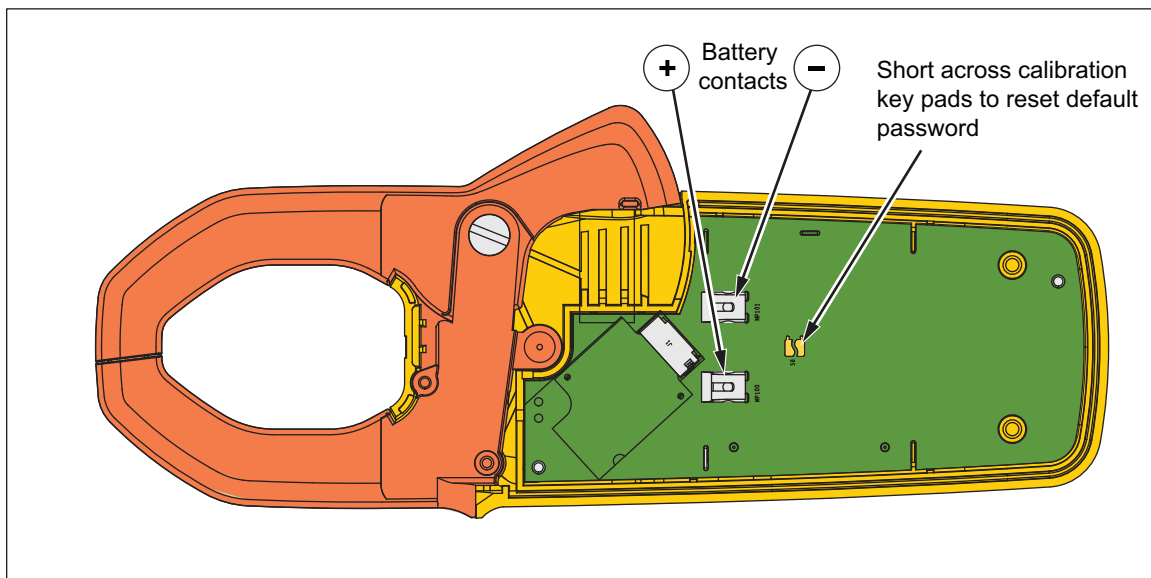

Figure 4. Calibration Password Reset
4. Apply 3.0 V across the battery contacts on the pca. Note the polarity that is shown in Figure 4.
6. Short across the CAL keypad on the pca. See Figure 4. The default password is now restored.